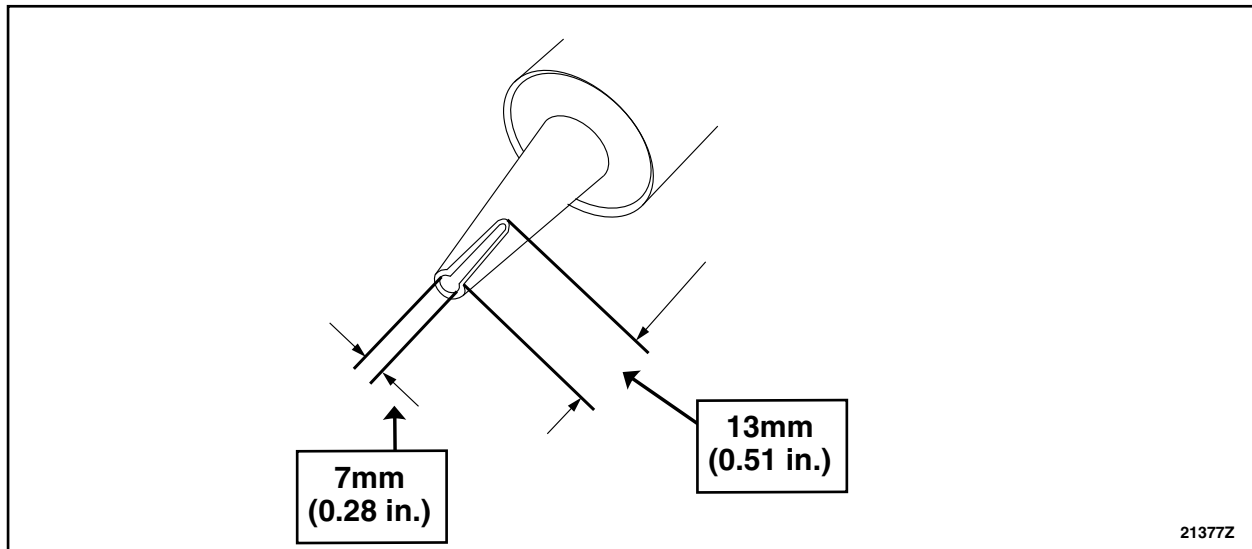

FIGURE 6
4. Cut the urethane adhesive applicator tip in triangular shape, to specification. See Figure 6.